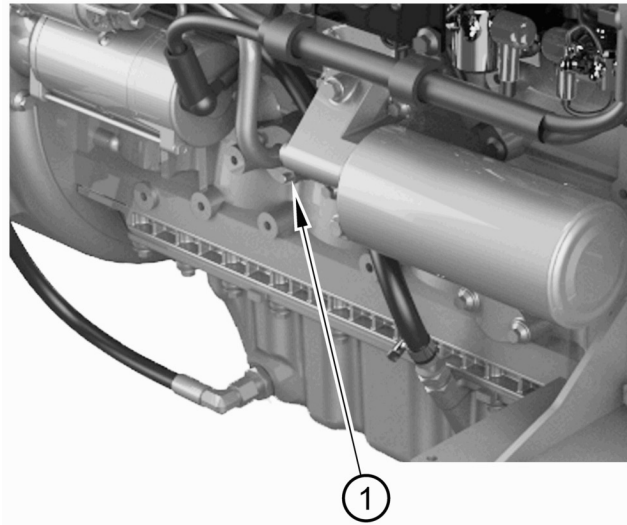
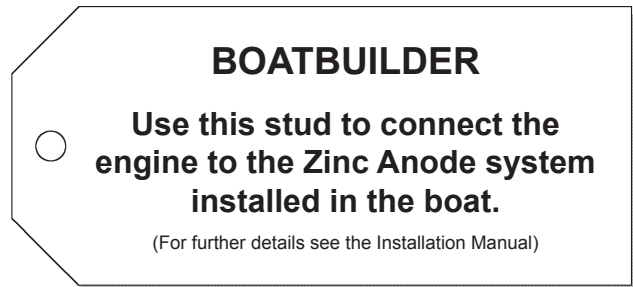

Figure 29
Figure 30
Electrolytic corrosion within the engine cooling system and transmission can be much reduced or eliminated by bonding the engine to a Zinc anode which is used to protect through the hull metal fittings and other metal components that are in contact with sea water. The engine is fitted with a stud (figure 29 item 1) that may be used for this purpose and is identified by a label as shown in figure 30.